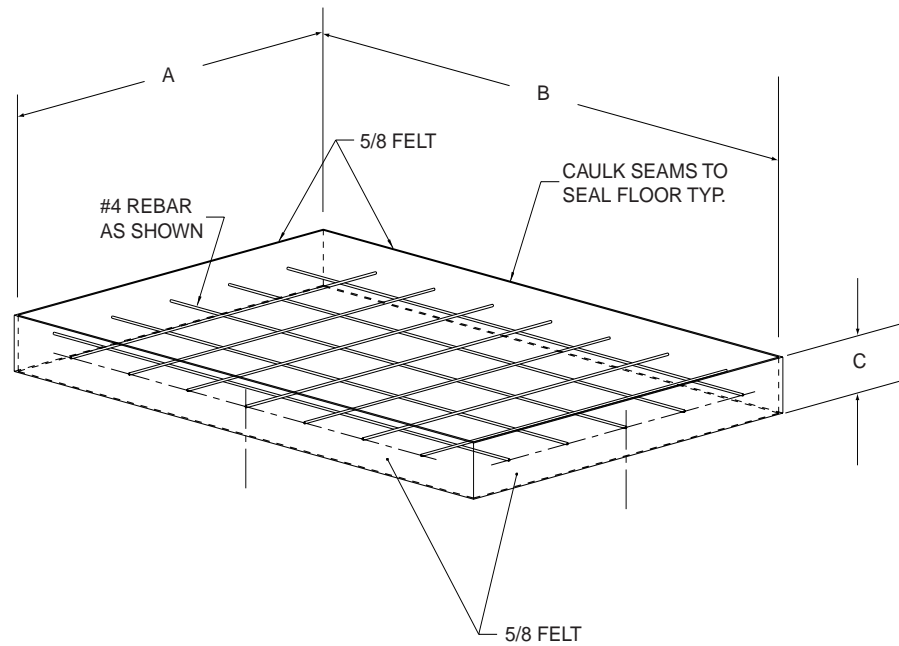

Figure 2-1: Typical Pad Construction
1. It is recommended that machine be placed on a isolated concrete pad. (See Figure 2-1:).